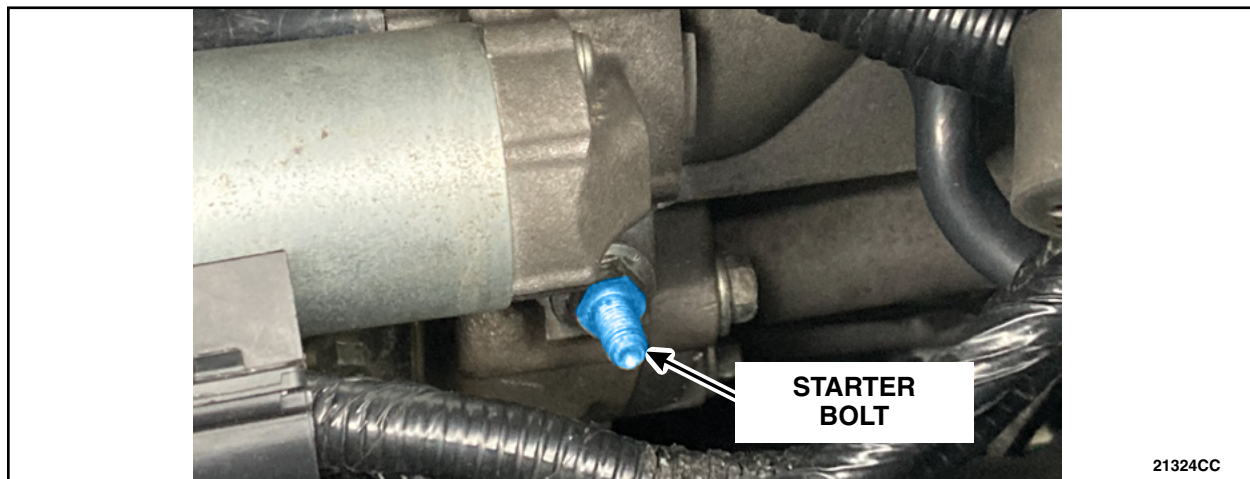

FIGURE 1
- The use of Chassis Ears (Rotunda part number JSP06600, or equivalent), may aid in narrowing down the noise to the bellhousing. Chassis ears should be placed on the transmission near the bellhousing, or the stud on the starter closest to the bellhousing. See Figure 1.